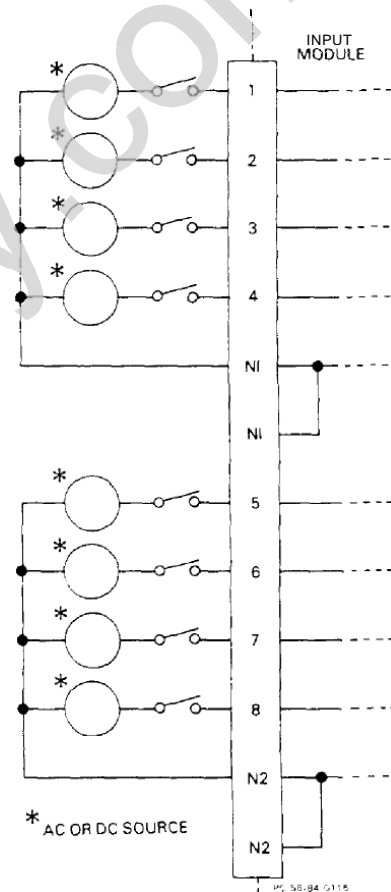

FIGURE 3. TYPICAL USER INPUT CONNECTIONS
4. Refer to Figure 3. Connect one side of the user circuit to the appropriate input terminal (1 through 8). Circuits connected to inputs 1 through 4 must have their opposite sides connected to either of the N1 terminals. Likewise, circuits connected to inputs 5 through 8 must have their opposite sides connected to either of the N2 terminals.
- In reference to Figure 3, note that wires connected to the N1 terminals are at the same potential, as are wires connected to the N2 terminals.